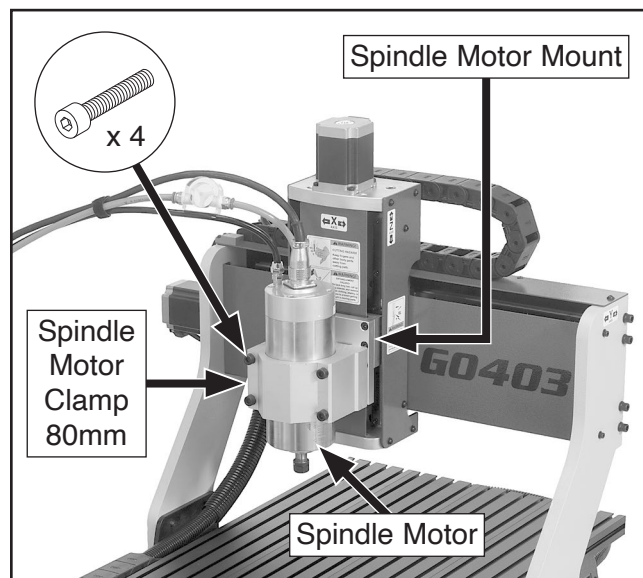

Figure 4. Spindle motor clamp (80mm) secured to Model G0403 spindle motor mount.
3. Install spindle motor in 80mm spindle motor clamp included with Model T34438, then secure to spindle motor mount using (4) M8-1.25 x 90 cap screws (see **Figure 4**).